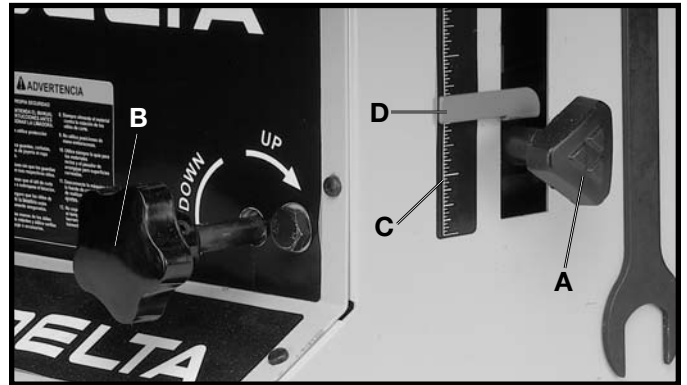

Fig. 17
To raise the spindle, loosen lock knob (A) Fig. 17, and turn the elevation knob (B) clockwise. When the spindle is at the desired height, tighten lock knob (A).
To lower the spindle, loosen lock knob (A) Fig. 17, and turn elevation knob (B) counterclockwise. **NOTE:** Final height setting of the cutter should always be from the bottom to the up position. Always tighten lock knob (A) after adjusting spindle height.
The Router/Shaper is equipped with a spindle height adjustment scale (C) Fig. 17, and spindle height indicator (D). The spindle height indicator moves up or down as the spindle is raised or lowered.